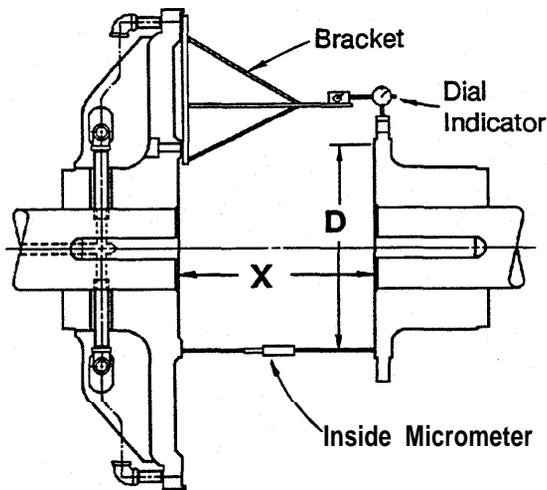

Fig. 5
Not to exceed 0.0005 inch per inch (.0005mm/mm) diameter at which readings are taken ("D" on Fig. 5).
- 2.4.1 Foundations must be set so distance "X", shown on Figure 5 (or the appropriate drawing for non-standard applications), is established. If the clutch is mounted on a shaft having plain bearings, make sure the shaft is centered within the bearings when establishing the "X" dimension. Refer to Table 2 for appropriate "X" dimensions.
TABLE 2 - "X" DIMENSIONS (FIG. 5)
- 2.4.2 Fabricate a rigid bracket for supporting a dial indicator and attach to the spider. See Figure 5.